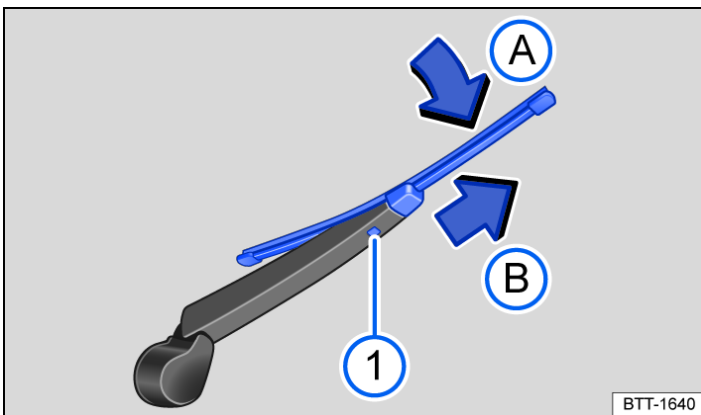

Fig. 2 Changing the rear window wiper blade.
- Press and hold the release button → Fig. 2 1.